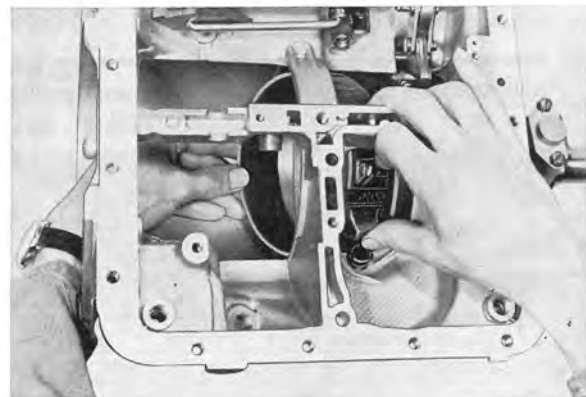

Fig. 4-103. Installing rear brake band
6. Place the rear brake band in position in the case, see Fig. 4-103. Then fit the rear servo assembly. Tighten only the rear (short) servo screw since the long one also locates the center support.